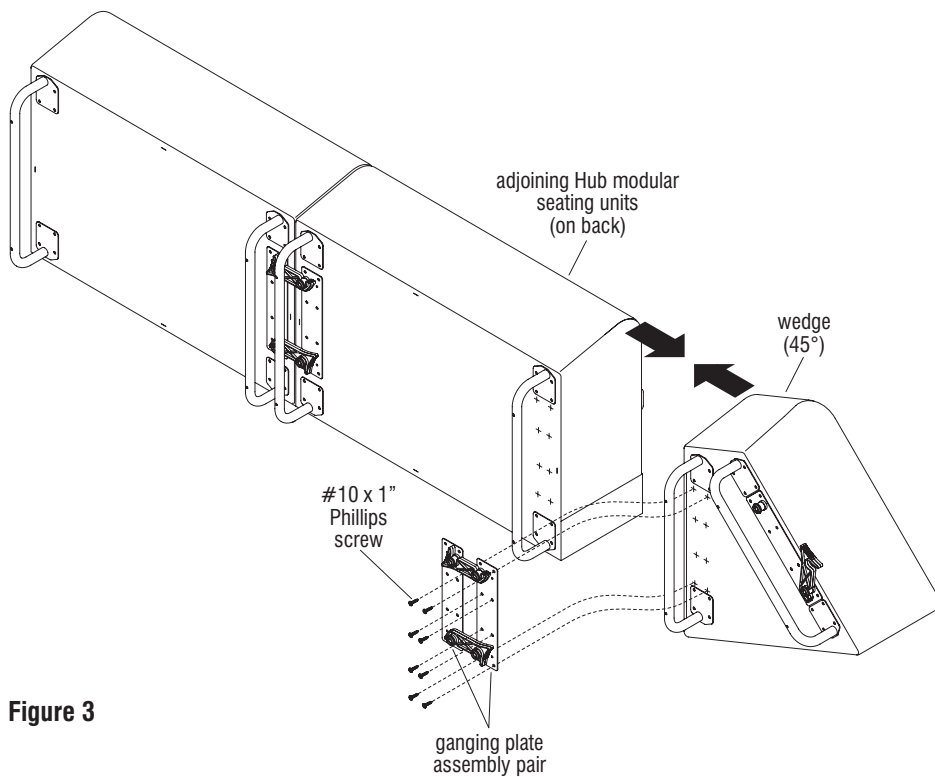

Figure 3
3. Carefully turn the adjoining Hub modular seating unit(s) (which will receive wedge, table or ottoman unit) onto their back side as illustrated. With care, slide the protruding half of the ganging plate assembly pair under the bottom of the seating unit it will attach to. Press units together tightly and hold the unit properly in position following Details E, F, G or H. Using the ganging plate as a "drill template", pre-drill all eight holes to the underside of the seating unit using a $\frac{1}{8}$ " diameter drill bit. Secure the mounting plate to the seating unit using a drill driver, #2 Phillips bit and all eight #10 x 1" screws provided (Figure 3).